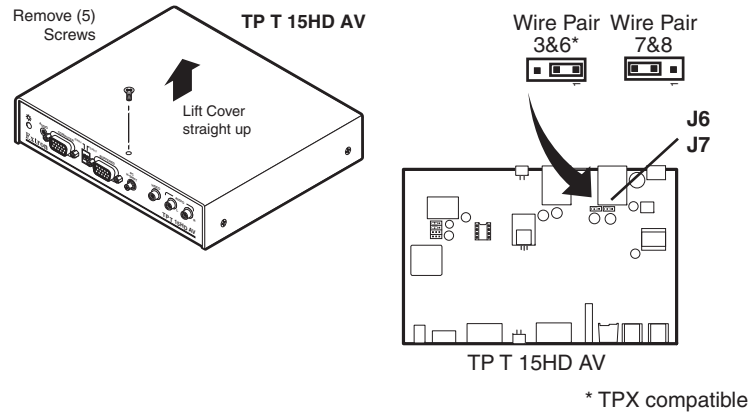

Figure 2-2 — Audio jumper configuration
1. Remove the two screws on each side and the screw on top of the cover (figure 2-2).
3. Locate J6 and J7 on the printed circuit board. See figure 2-2.